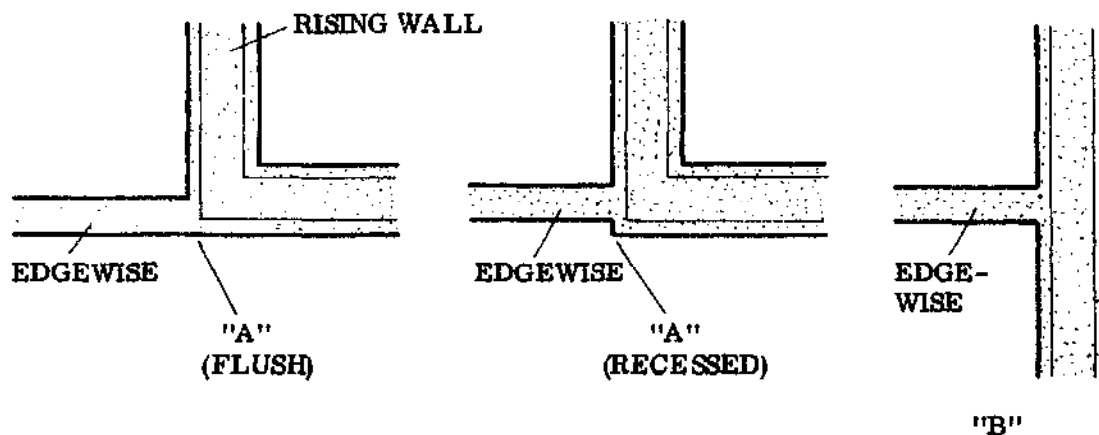

Fig. 1 SITUATION "B"
- SITUATION "A", COMMON BLOCKS, OUTSIDE FLUSH: As with the corner bond using common blocks (previous page), this bonding problem can only be solved by shaping the first blocks of both courses of the thin wall so that the second course of the thick wall can be bonded (Fig. 1). This requires precise and careful cutting.
Fig. 1 shows that here again we find the same problem which always arises when common blocks are used in a bond between different wall thicknesses. The first blocks of the two edgewise courses have to be cut to odd shapes.